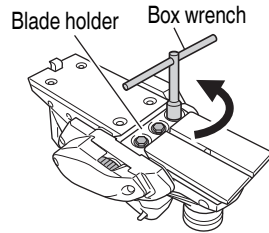

Fig. 14
(1) As shown in Fig. 14, loosen the blade holder with the attached box wrench.